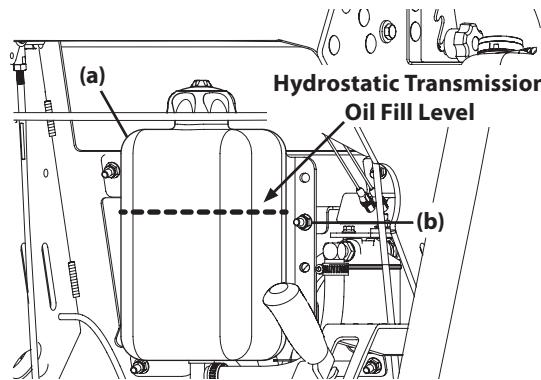

Figure 24
2. Ensure the hydrostatic transmission oil reservoir level is just above the upper reservoir mounting bolts (b) as shown in Figure 24.
7. Add hydrostatic transmission oil until the level is even with the upper reservoir mounting bolts. See Figure 24.